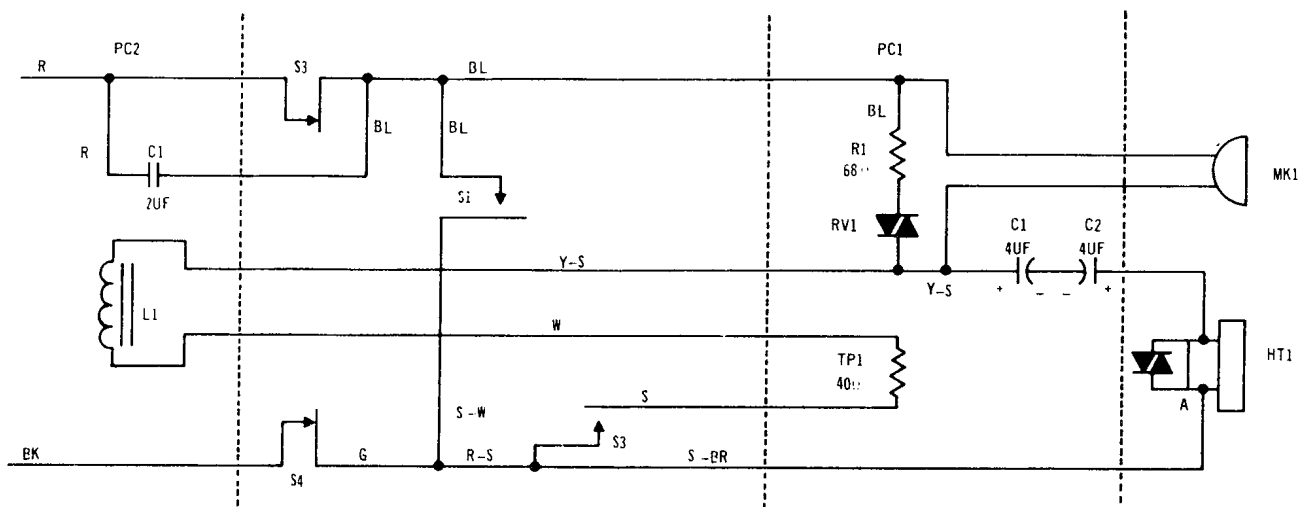

Fig. 3 - QSE4A Handset Schematic
2.02 The QSE4A1 and QSE4B1 handsets differ in their operational features and circuitry, as shown in Table A and Fig. 3 and 4.